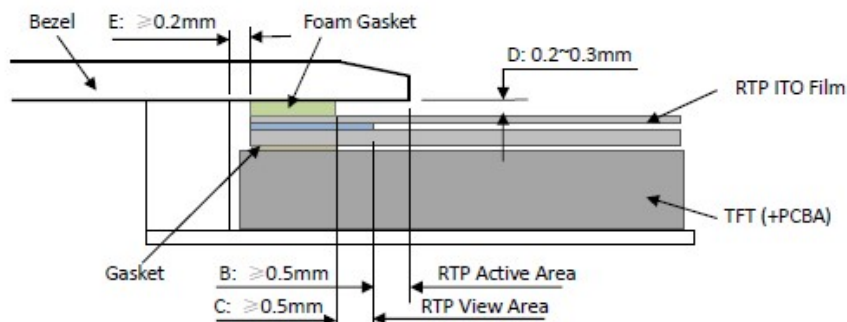

Figure 4
- It should bezel touching the RTP Active Area (A.A.) to prevent abnormal touch. It should left gab $D=0.2\sim 0.3\text{mm}$ in between. (Figure 4)
- Outer bezel design should take care about the area outside the A.A. Those areas contain circuit wires which is having different thickness. Touching those areas could de-form the ITO film. As a result bezel the ITO film be damaged and shorten its lifetime. It is suggested to protect those areas with gasket (between the bezel and RTP). The suggested figures are $B\geq 0.50\text{mm}$; $C\geq 0.50\text{mm}$. (Figure 4)
- The bezel side wall should keep space $E= 0.2 \sim 0.3\text{mm}$ from the RTP. (Figure 4)
- 为避免面框直接压在动作区 (A. A.) 上造成误动作，面框与电阻触摸屏 (RTP) 之间应留有一定的空隙 $D=0.2\sim 0.3\text{mm}$ 之间. (附图 4)
- 设计面框时，要注意用面框保护触摸屏四周的非保证操作区域，因为布线区域在此处形成一台阶，在此区域附近操作时 ITO Film 变形较大，容易导致 ITO 损坏而降低寿命。为保护 RTP 和避免误操作，在 RTP 与面框之间垫缓冲物 (Gasket)，我们建议设计面框应覆盖动作区的边缘，面框边缘到 V. A. 区的距离 $B\geq 0.50\text{mm}$ ；垫圈内边缘到 V. A. 区的距离 $C\geq 0.50\text{mm}$ 。 (附图 4)
- 在设计面框与 RTP 组装时，应考虑到面框内侧与 RTP 外侧的间距 $E\geq 0.2\text{mm}$ 。 (附图 4)